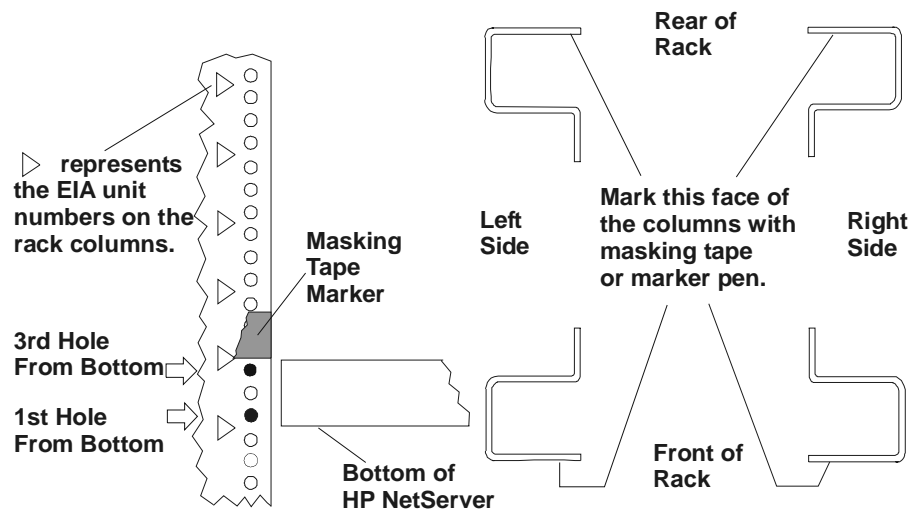

Figure 13-3. Location Marks on the Rack's Columns
2. Use the masking tape (or marking pen) to mark above the 3rd hole up on both front columns, as shown in Figure 13-3.
3. Mark the inside face of the left-rear and right-rear rack columns, with masking tape, as shown in Figure 13-3.
4. Match the outer-rail pins to the column holes (1st & 3rd) marked on the front and rear columns. See Figure 13-3.